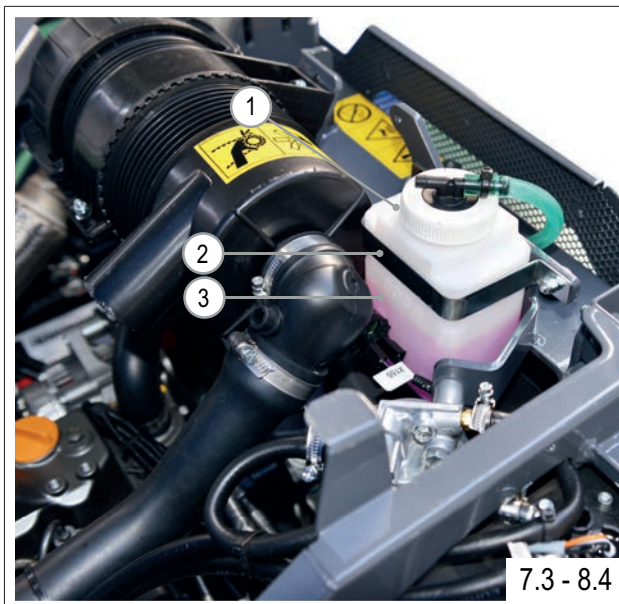
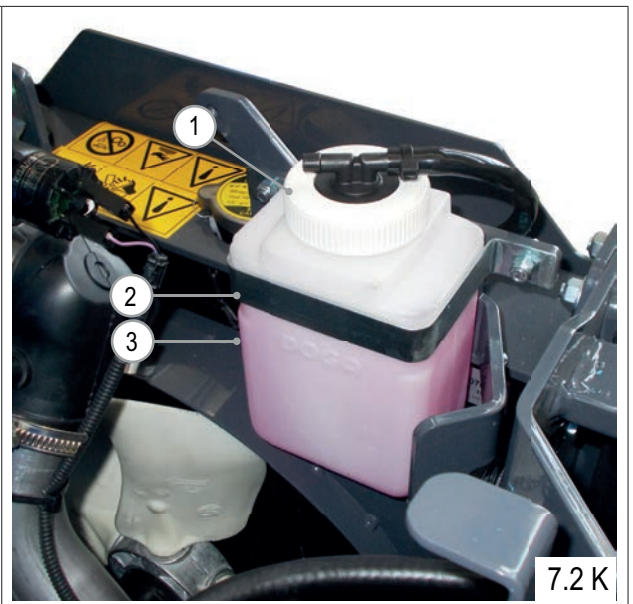
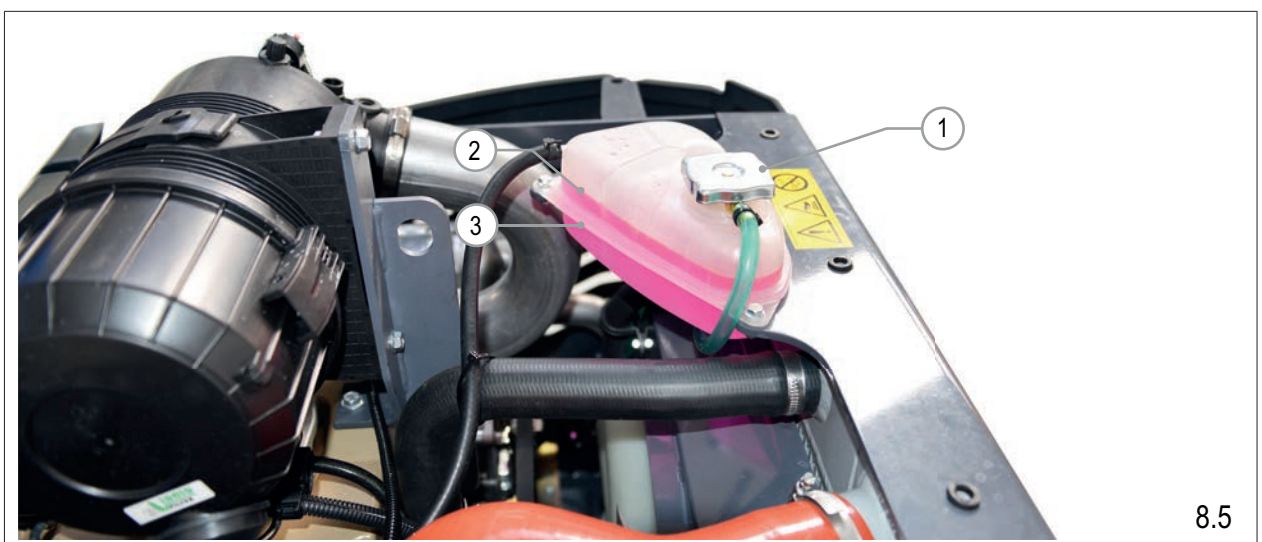

FIG. 56
FIG. 57
FIG. 58
- 4) The cold engine coolant level in the overflow tank (FIG. 56, FIG. 57 and FIG. 58 - Ref. 1) should be between the two lines (FIG. 56, FIG. 57 and FIG. 58 - Ref. 2 and Ref. 3).